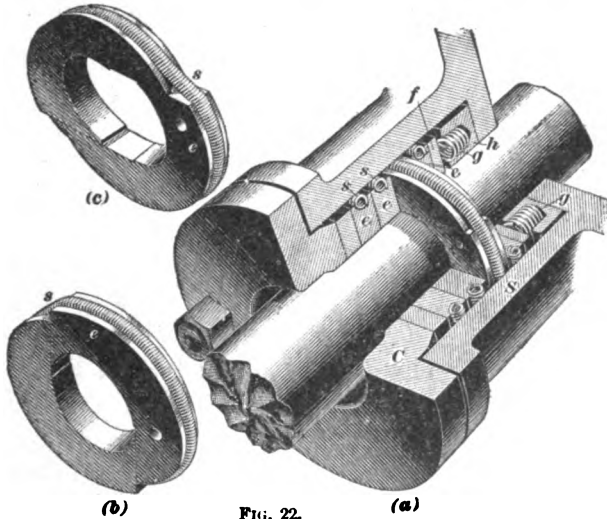

FIG. 22.
**22. Harthan's Metallic Packing.**—A new form of metallic packing, called Harthan's metallic packing, after its inventor, Mr. F. E. Harthan, is shown in Fig. 22. While this